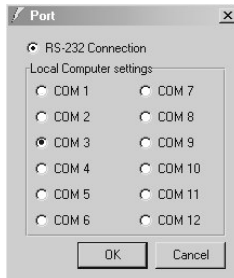

Figure 13: The Port Window – Selecting a Virtual Serial Port
5. In the control application, choose the COM-port connection according to your virtual serial port connections (see Figure 13).